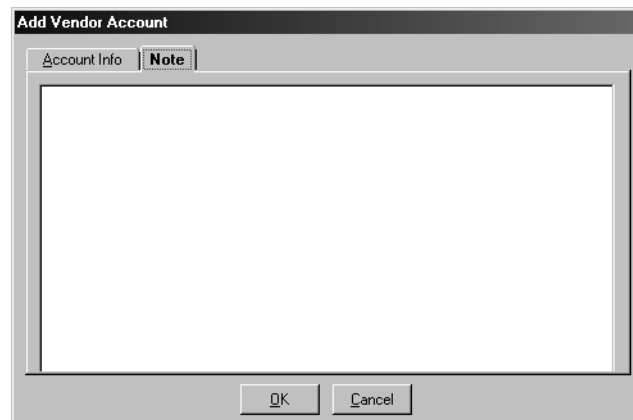

Figure 4-13. Add Vendor Account dialog box - Note tab
10. Click the **Note** tab (Figure 4-13) and enter the information in the free-text box.
11. Click the **OK** button to save the account and close the **Add Vendor Account** dialog box (see Figure 4-13). Click the **Cancel** button to close the dialog box without saving.